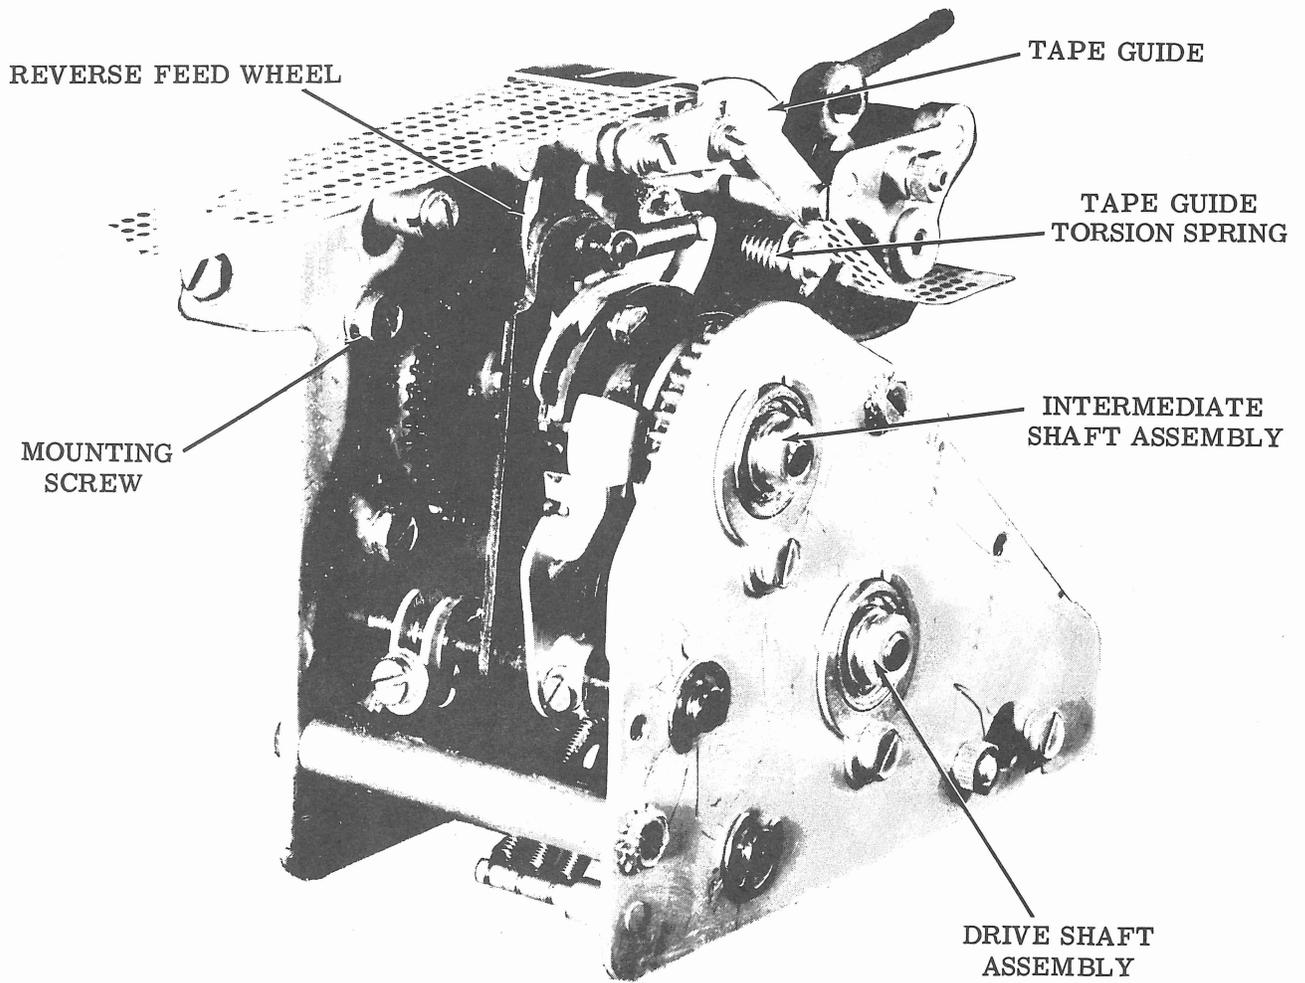

Figure 9 - Punch Backup Mechanism, Left Front Oblique
**PUNCH BACKUP MECHANISM (Figure 9)**
3.07 To remove the tape guide assembly (Figures 9 and 10):
3.08 To remove the backup mechanism from the main casting (Figures 9 and 11):